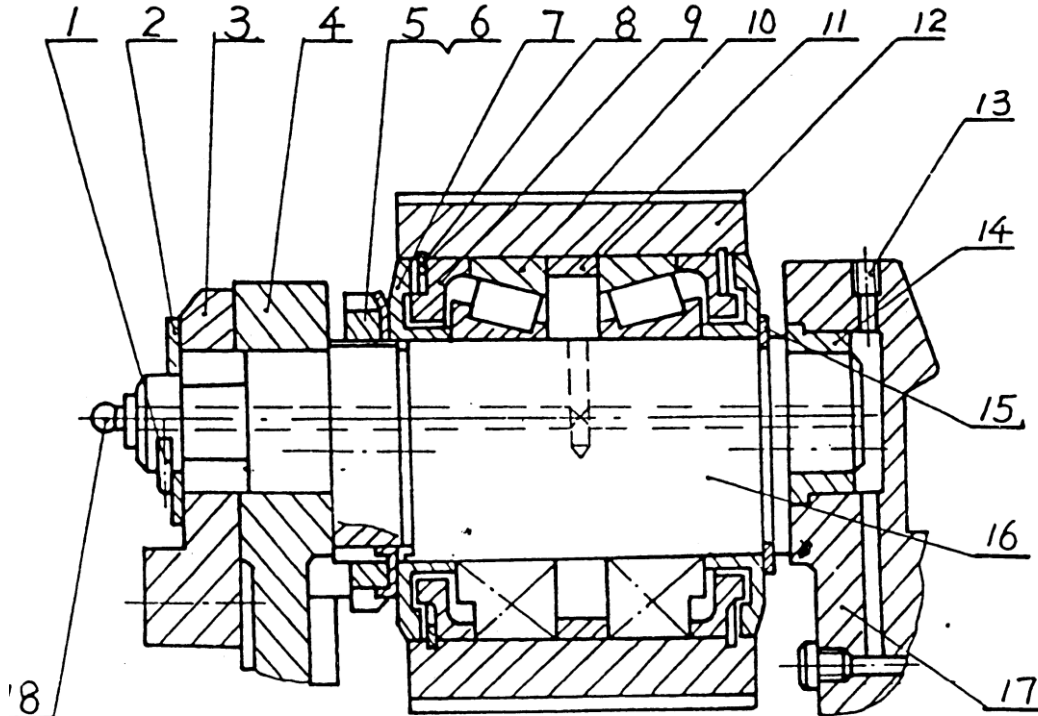

Figure 6 ROLLER ASSEMBLY
See Figure 6 for the mounting of the roller. The roller (12) is mounted on the roller shaft (16) by two bearings (10). The inner end of the roller is fixed with the main Shaft (17) by the liner (14) and the outer end is fixed with the roller support (4). As the roller shaft is eccentric, the clearance between the die and roller can be adjusted by the rotation of the roller. The clearance can be adjusted by rotating the roller adjusting gear.